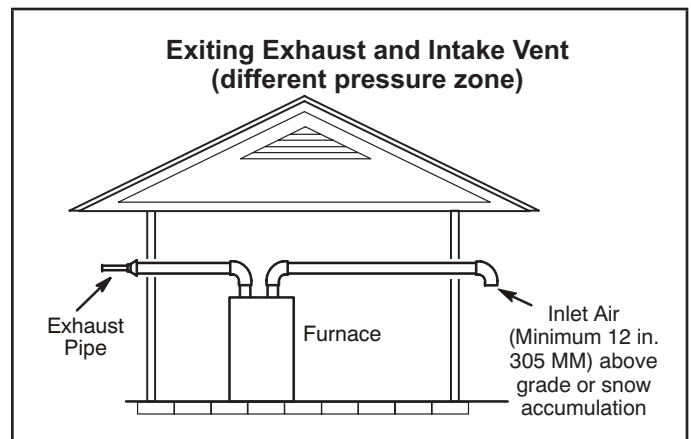
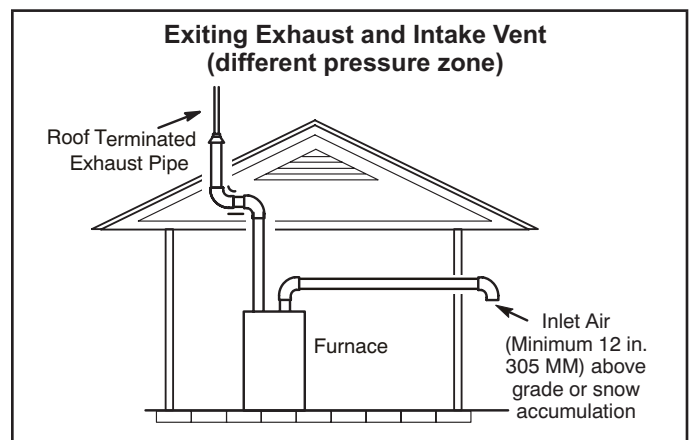

FIGURE 25
FIGURE 26
- 1 - Intake and exhaust terminations are not required to be in the same pressure zone. You may exit the intake on one side of the structure and the exhaust on another side (FIGURE 25). You may exit the exhaust out the roof and the intake out the side of the structure (FIGURE 26).